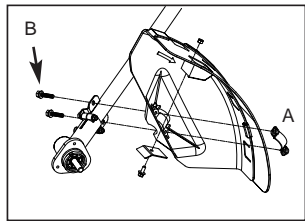

Fig. 3
2. place the guard on the cutting shaft, then install clamp (A) on the guard. (Fig.3)
3. Tighten screws (B).